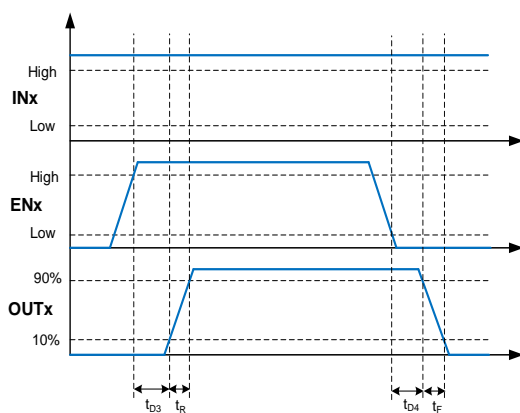
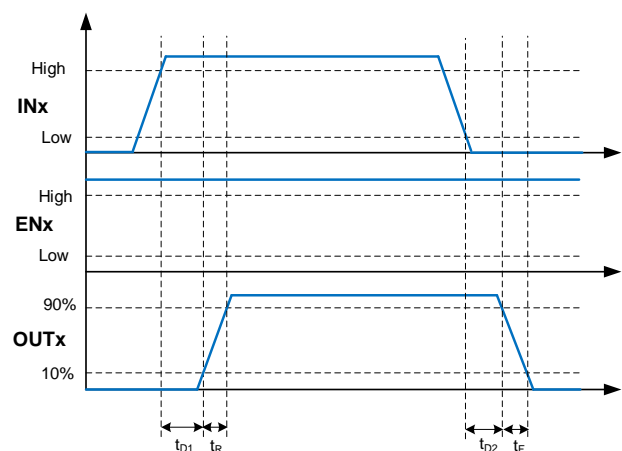

Figure 3. Enable Function
Figure 4. Input and Output Operation
2) See timing diagrams in Figure 3 to Figure 4.